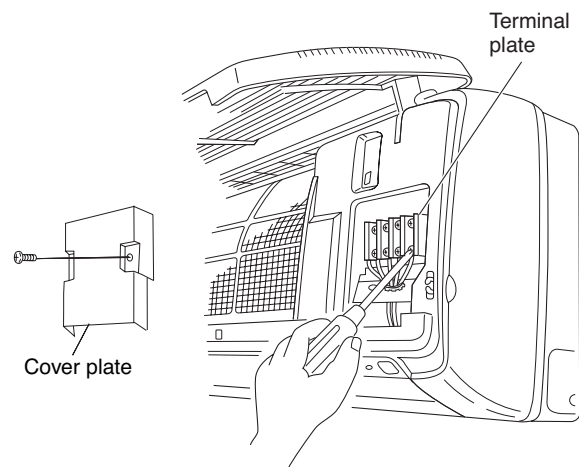

Fig. 3-58a
- (2) Route the inter-unit wiring from the back of the indoor unit and pull it toward the front for connection. (Figs. 3-58a and 3-58b)
- (3) Connect the inter-unit wiring to the corresponding terminals on the terminal plate (Figs. 3-58a and 3-58b) while referring to the wiring diagram.
- (4) Be sure to secure the wiring with the provided clamp.
- (1) Using a Phillips screwdriver, remove the screw on the cover plate. (Figs. 3-58a and 3-58b)
- (2) Remove the cover plate.